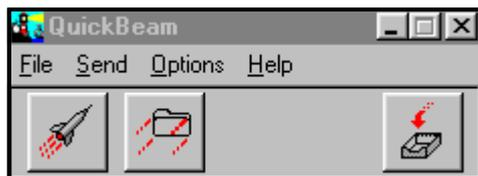

Figure 69: QuickBeam Window
- Click on the desired file, and drag it onto the rocket button in the QuickBeam window, as shown in Figure 69 below, or